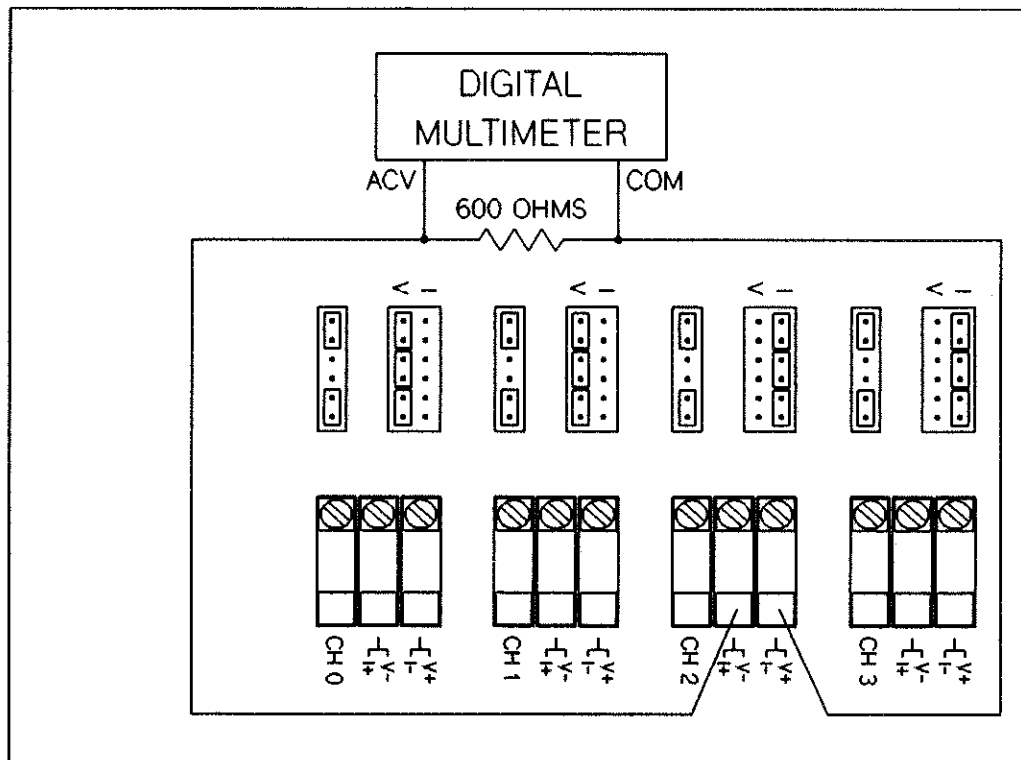

Figure 15-13 HP 44727A/B/C Current Noise Test
1. Set the multimeter to measure ac volts. On the test fixture, connect the multimeter ACV input to the I+ connection and connect the COM input to the I- connection of the channel to be tested. Connect a 600 to 630 ohm resistor across the channel's I+ and I- connections. The connections are shown in Figure 15-13.